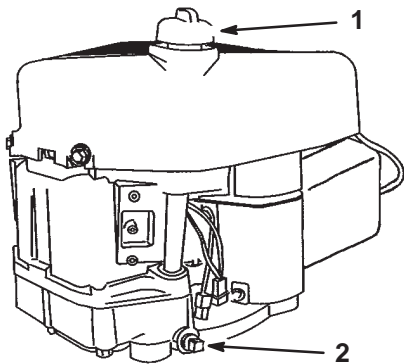

Figure 16
7. Clean around the oil dipstick (Fig. 16) so that dirt cannot fall into the fill hole and damage the engine.
- Place a drain pan below the oil drain plug and remove it (Fig. 16).